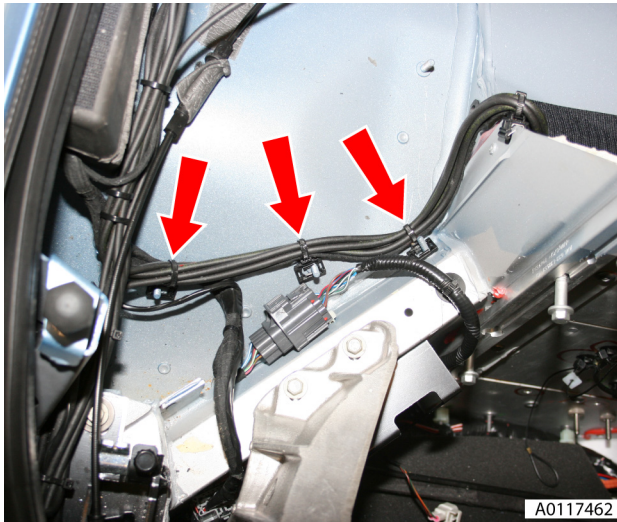

Fig. 14
29. Remove harness/pipe retaining clips (x3) LH side (see Fig. 14).